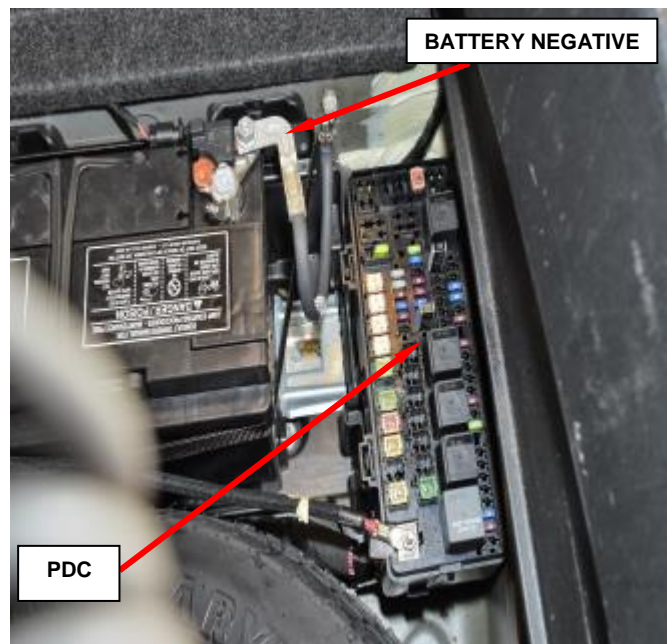

Figure 1 - Battery Negative
1. Disconnect IBS sensor, if equipped, then isolate the battery negative cable then remove the two Airbag Module fuses from the Power Distribution Center (PDC), see the PDC cover for the fuse locations. Wait two minutes for the system capacitor to discharge before further service (Figure 1).